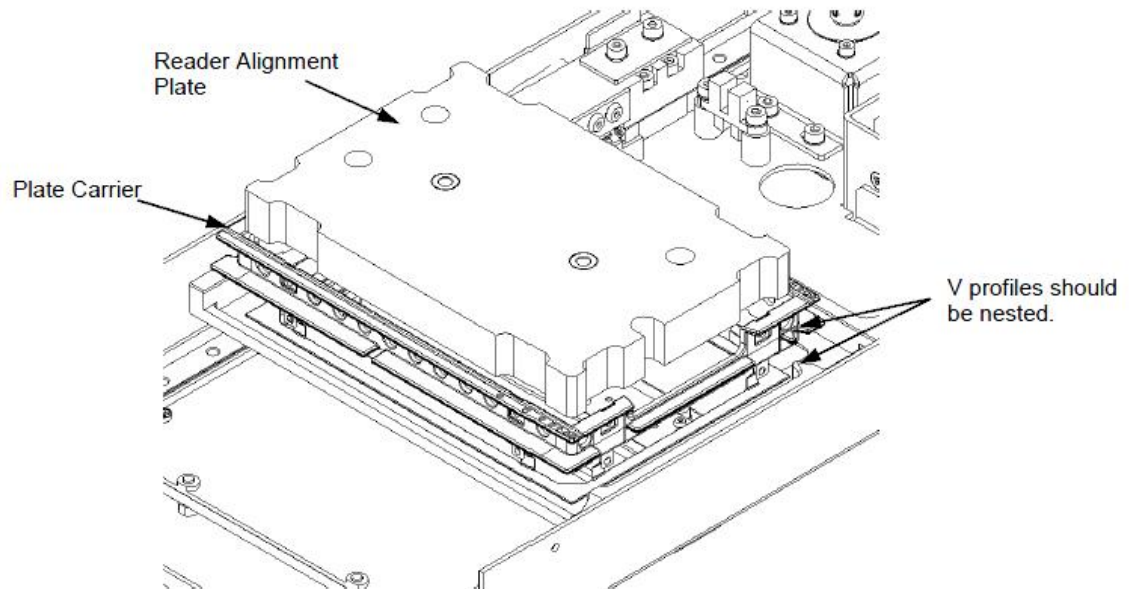

Figure N-13: Using the Reader Alignment Plate
3. Place a Reader Alignment Plate into a Plate Carrier. Place the two parts into the Reader Plate Holder. Push the Plate Carrier to the right of the Holder so the “v” profiles are nested (Figure N-13).